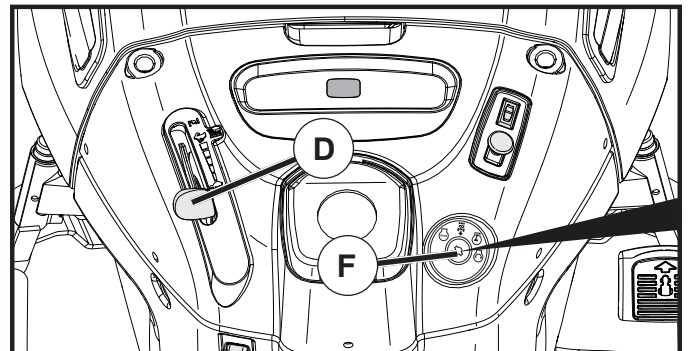

Fig. 17
TO USE THROTTLE CONTROL (D) (See Fig. 17)